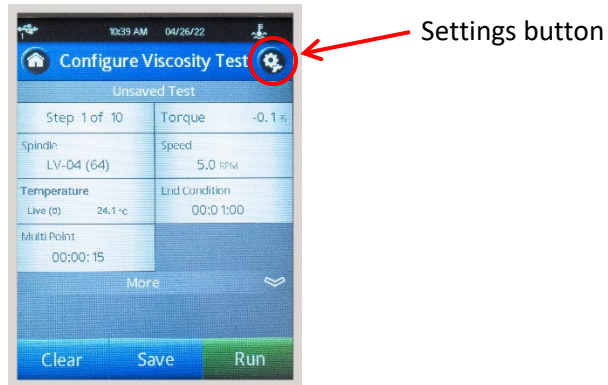

Figure 24: Settings Button
12. From the Configure Viscosity Test screen, press the **Settings** button on the top right corner. See Figure 24.